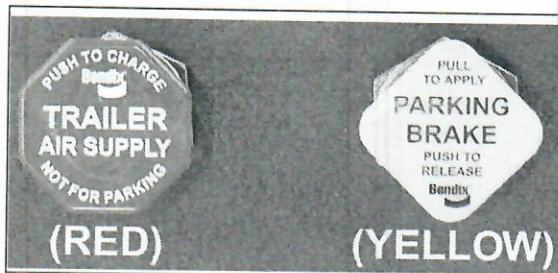

Figure 15
Kalmar tractors are equipped with spring brakes for parking. The parking system is operated manually by a cab-mounted parking brake control valve (Figure 15). (Also see page 20, items 6 and 7.)